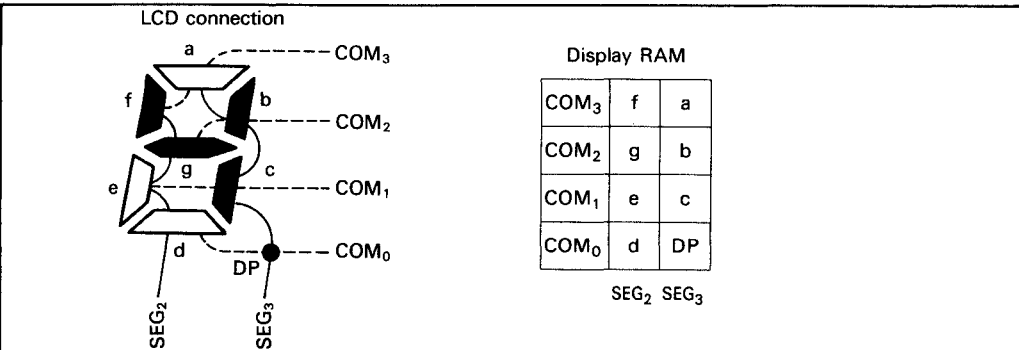

Figure 7. Example of Correspondence between LCD Connection and Display RAM (1/4 Duty, HD61604)
(4) **1/4 Duty Drive:** In the 1/4 duty drive, all the columns of COM₀ to COM₃ are displayed (figure 7).